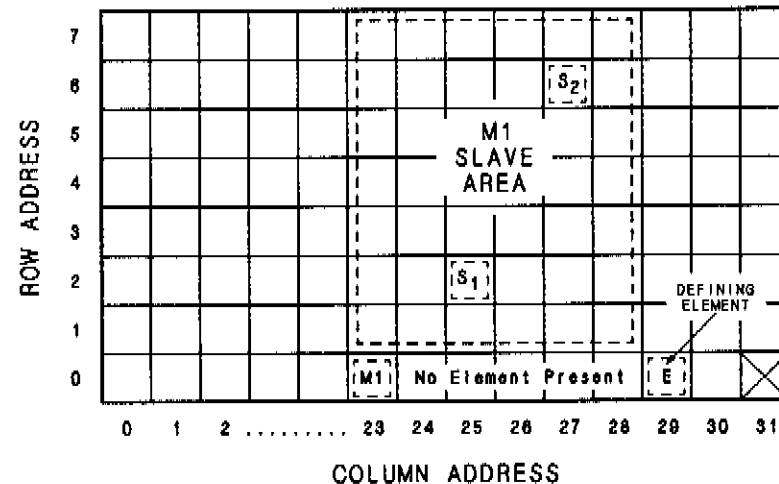

Figure 22. Master/Slave Addressing
2. The defining element must be in a row that is the same as or below that of the master. In Figure 22 the only element in a row equal to or below that of the master is the defining element at address 0, 29.
1. One side boundary is equal to the masters column address (in Figure 22 this is column 23).
2. The other side boundary equal to a column one less than that of the defining element (in Figure 22 this is column 28).
3. The bottom boundary is always set at a row address one greater than the row address of the master (in Figure 22 this is row 1).
In Figure 22, the master is at address 0, 23 and its two slaves (S1 and S2) are at addresses 2, 25 and 6, 27.